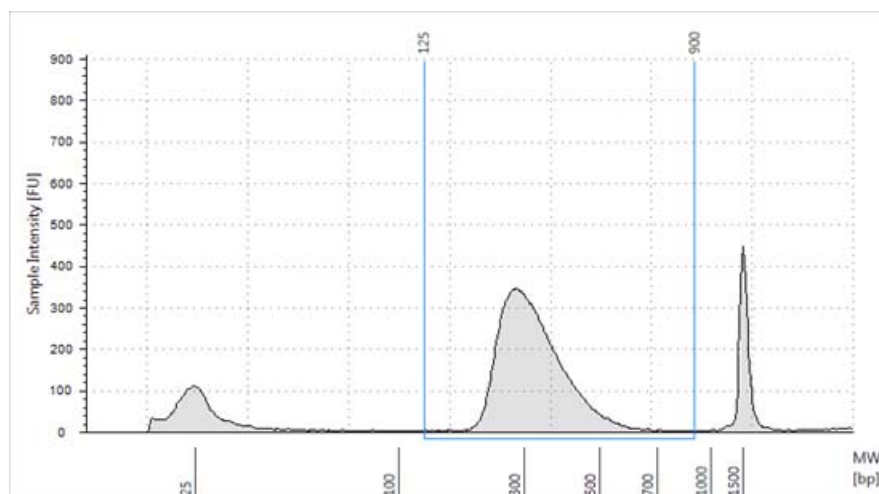

Figure 10 Post-capture analysis of amplified indexed library DNA using the 2200 TapeStation with a High Sensitivity D1000 ScreenTape.
- 3 Verify that the electropherogram shows the peak of DNA fragment size positioned between 250 and 350 bp. A sample electropherogram is shown in Figure 10.